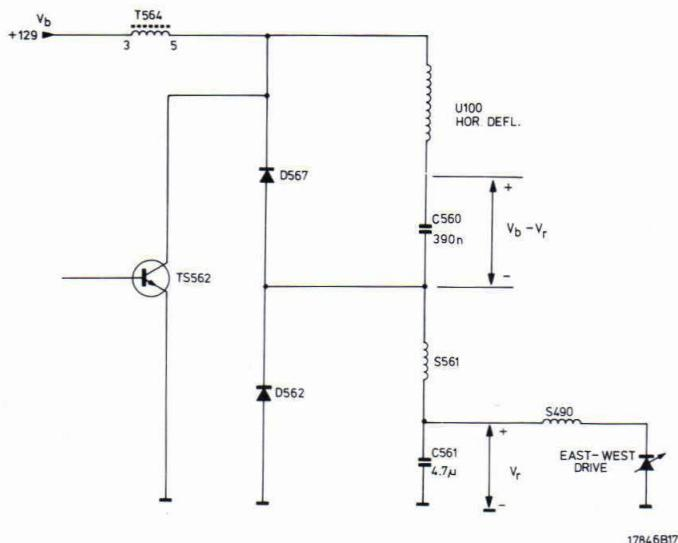

Fig. IX-6
2. De oost-west modulator (Fig. IX-6)